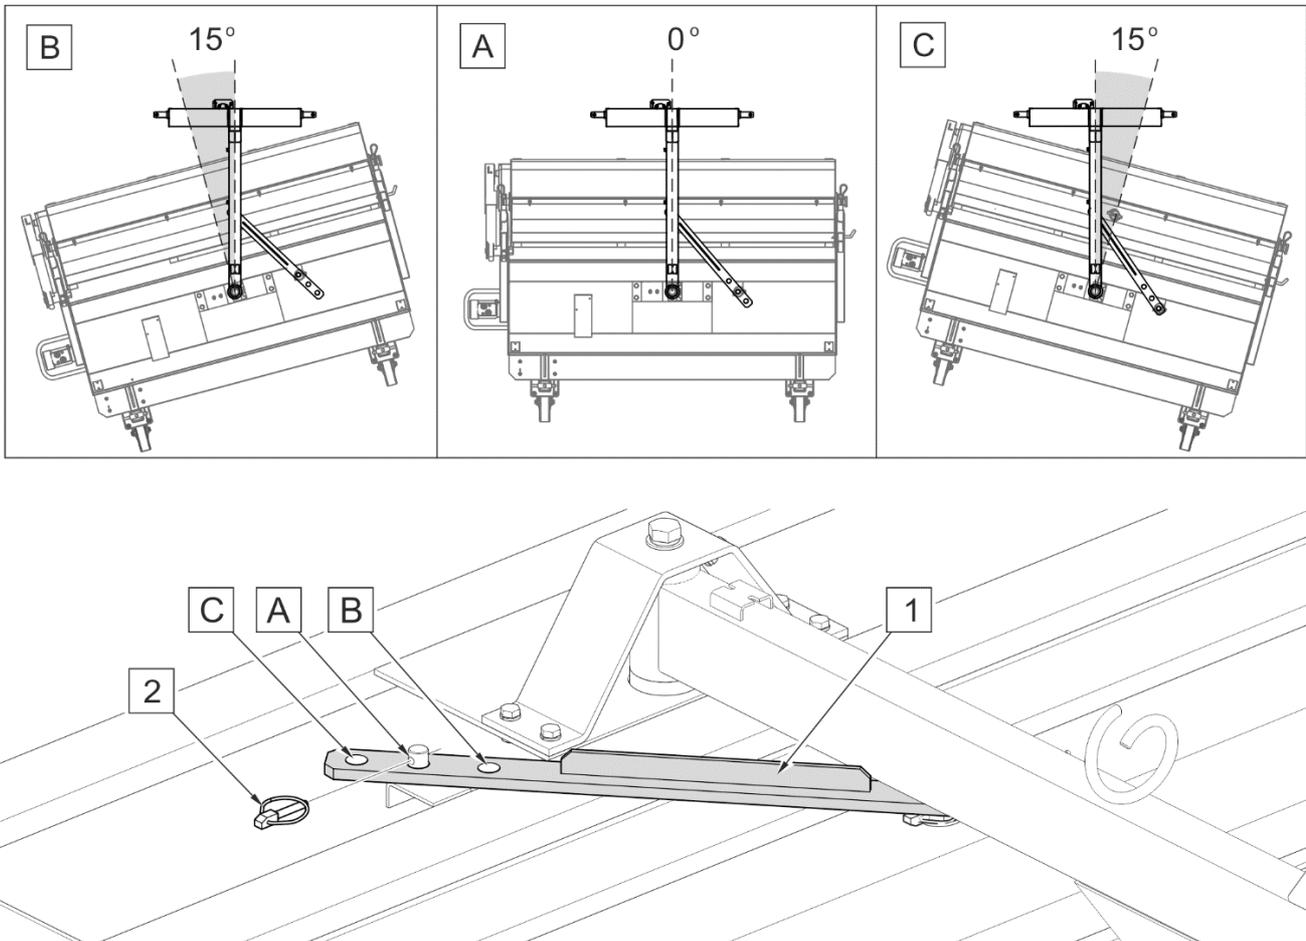

FIG. 4.8 Changing the sweeper's working angle
(1) - strip; (2) - securing cotter pin; (A) - tilt: 0°; (B), (C) - tilt: 15°
In order to set the working angle of the roller brush (FIG. 4.8) change the position of the pin in the appropriate retaining hole (A), (B), (C) of the strip (1). The pin is installed in hole (A) of the strip (1) when the sweeper's tilt during operation is 0°. Lock the pin in selected position using securing cotter pin (2). The pin is installed in holes (B) and (C) when the working sweeper is tilted by 15° to the right and to the left. The sweeper should be set at an angle during operation without the waste collecting tank.